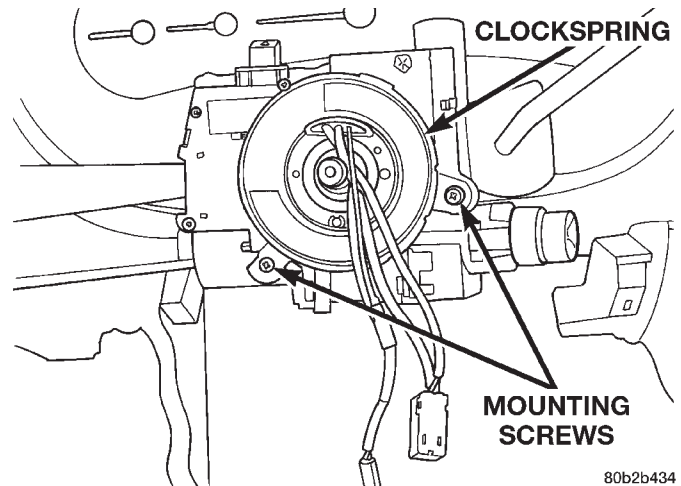

Fig. 17 Clockspring Mounting Screws
(22) Remove the 2 screws (Fig. 17) mounting the clockspring to the steering column. Remove the clockspring from the steering column.
(23) Disconnect the wire harness connector at the SKIM module. Remove the mounting screw and unclip the module from the key cylinder halo bezel.
(11) Install the clockspring on the steering column. Install and securely tighten the 2 screws (Fig. 17) mounting the clockspring to the steering column.